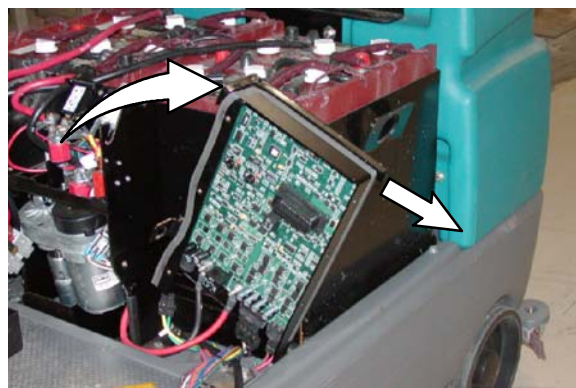

Fig. 2
5. Remove bolt (D), washers (E) and (F) and green wire (Q) from the control panel weldment (G).
6. Remove connectors (J), (K), and (L) from the circuit board.
7. Tilt the circuit board/control panel weldment out as shown (Fig. 2).